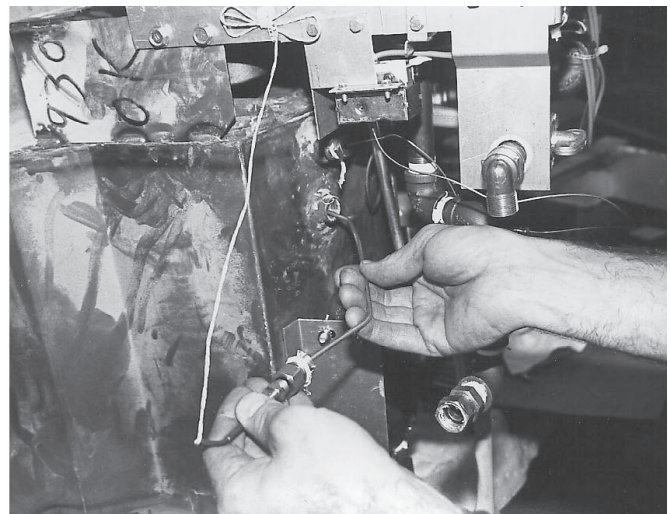

Figs. 85
23. With a 1/4" socket from inside the fryer tank remove the hardware and mounting clips holding the hi limit and thermistor/thermostat bulb to the tank. (Figs. 85)